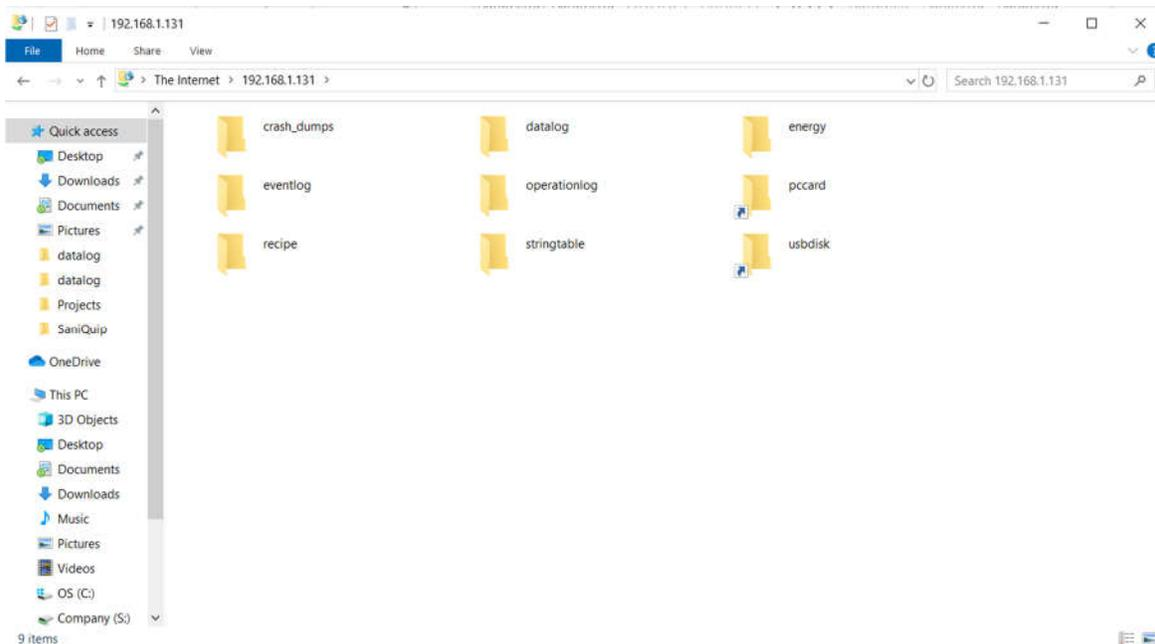

Fig. 36 FTP connection
- a. In the address above “111111” is the password for the sanitizer and “192.168.1.131” is the IP address of the sanitizer. The password is set to 111111 as default. The IP address will vary for each sanitizer but the “initial setup” section of the manual details how it can be obtained. The screen in fig.36 should now be displayed.